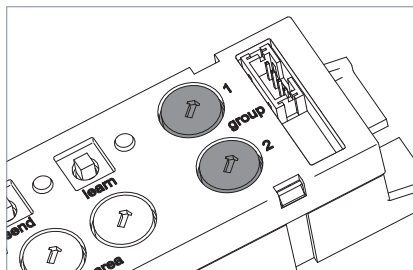

Fig. 9: "group 1" and "group 2" rotary coding switches.
- If you want to assign the luminaire exactly to one group, both rotary coding switches "group 1" and "group 2" should be set to the same group address, see Fig. 9.